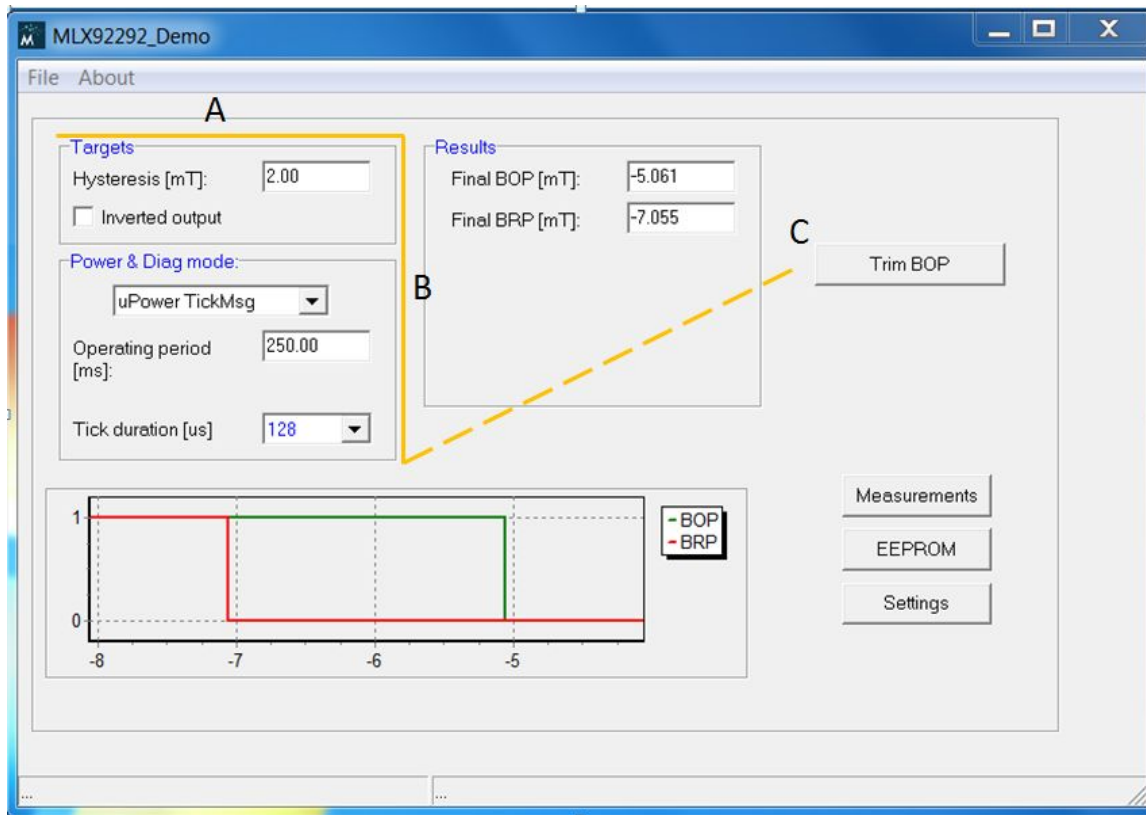
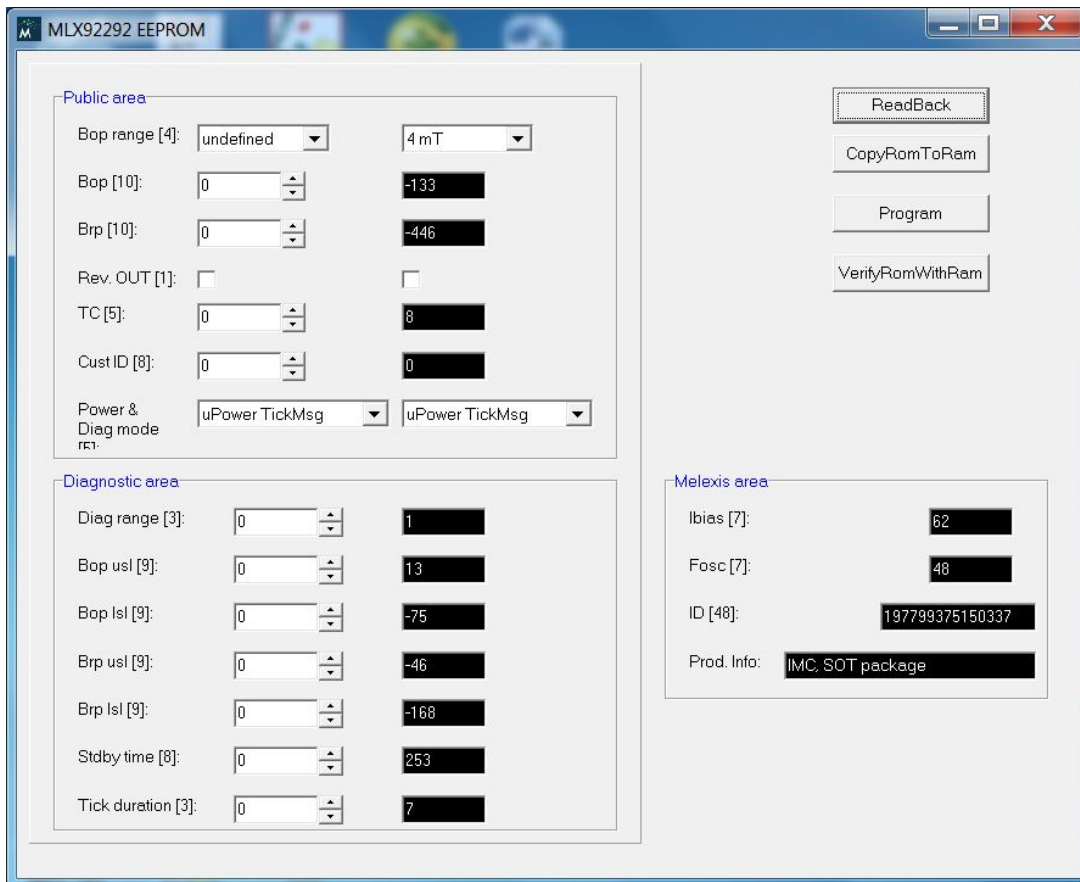

Figure 8 - Solver flow overview
Figure 12 - MLX92292 EEPROM window
- **Trimming BOP (C)**
- Press 'Trim Bop' button on the UI. The solvers measures BOP and calculates BRP based on the programmed hysteresis value. For example, in figure 8 the measured BOP was equal to -5.061mT. Therefore, BRP is determined as BOP - programmed hysteresis (2 mT in this case), resulting in -7.055mT.
- The red and green graphs at the bottom of figure 8 indicate the output behavior.
MLX92292 features several diagnostic modes. Each of these modes can be selected in MLX92292\_Demo UI -> Power & Diag mode -> Drop down list just above the **operating period** box (see figure 8).
The EVB922xx UI 'Measurements' option can be accessed by clicking on the "Measurements" button (figure 8).
The EEPROM content of the e.g. MLX92292 can be analyzed and re-programmed through the "EEPROM" window on the MLX92292\_Demo UI (accessible by clicking on the EEPROM button shown in figure 8). The EEPROM window is shown in figure 12.